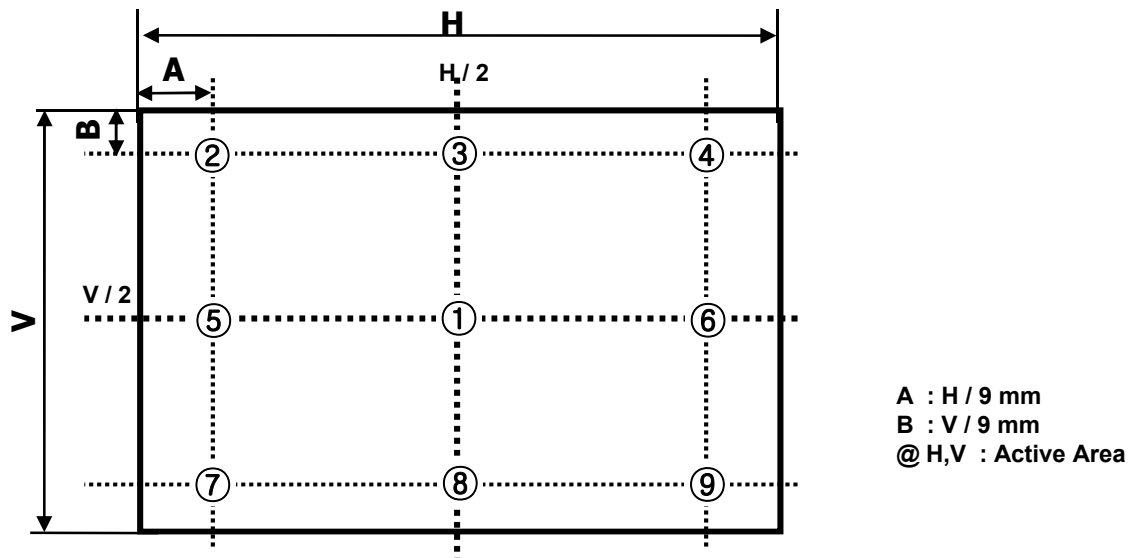

FIG. 3 9 Points for Luminance Measure
2. Surface luminance are determined after the unit has been 'ON' and 1 Hour after lighting the backlight in a dark environment at $25 \pm 2^\circ\text{C}$. Surface luminance is the luminance value at center 1-point across the LCD surface 50cm from the surface with all pixels displaying white. For more information see the FIG. 3.
For more information, see the FIG. 3.